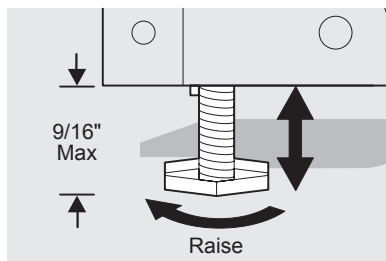

Figure 3
- 3 Use adjustable wrench to adjust leveling screws. Lower the leveling screws on each side clockwise until they contact the floor (Figure 3). Do not raise the cabinet more than  $\frac{9}{16}$  inch.